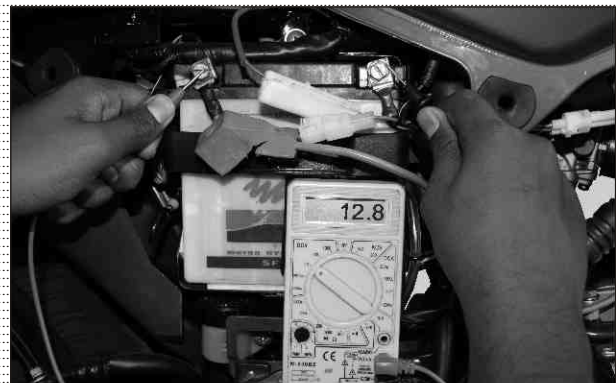

Fig. 2.19
- Check battery voltage. If voltage is lesser than 12V, charge the battery. (Fig. 2.19) (Refer page no 2-20 for further details.)